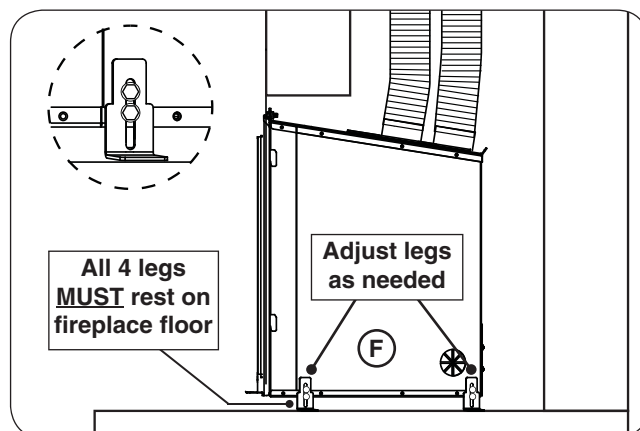

Fig. 27-3 Use adjustable legs to level (as needed)
- The unit has four adjustable legs for leveling purposes. Adjust each leg as needed to level the unit. Ensure each leg rests on the fireplace floor. Use a $\frac{5}{16}$ " nut driver to loosen the two hex screws on a leg, move it to the required height, and then re-tighten the screws. See Fig. 27-3, F.